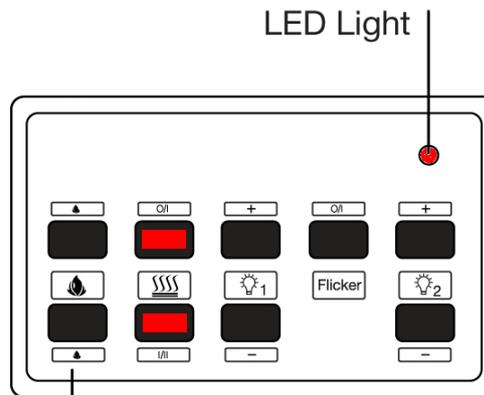

Fig. 6
1. To turn the fire on (**Fig. 5 and Fig. 6**), simply press and release the **FIRE ON** or button on the remote or manual keypad.
1. Make sure the fire is plugged in at the mains, turned to standby (I on main on/off switch) and the LED on the manual keypad is lit **Fig. 6**.